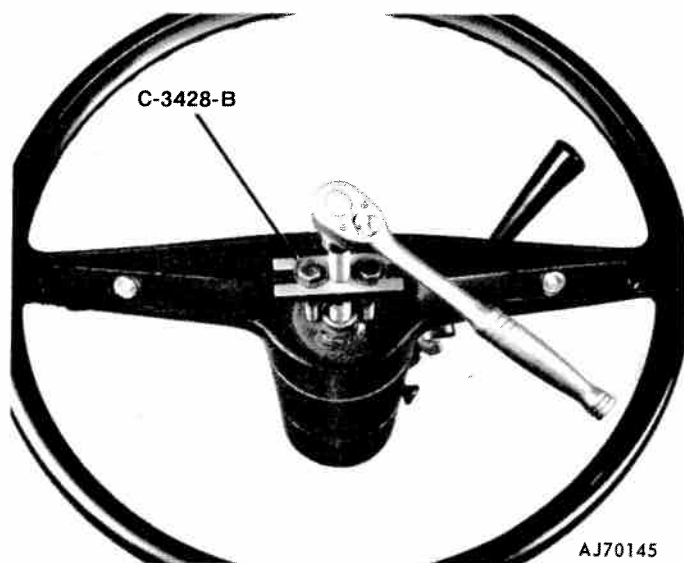

Fig. 11-2 Steering Wheel Removal
(1) Disconnect battery negative cable.
(2) Place front wheels in straight-ahead position.
(3) Remove steering wheel spoke horn cover attaching screws from underside of steering wheel spoke and remove horn cover.
(4) Disconnect horn wire from switch in steering wheel cavity by gently pulling and wiggling quick-disconnect connector.
(5) Remove steering wheel nut and connector.
(6) Scribe a mark on steering wheel and steering shaft to facilitate installation.
(7) Install Puller J-25115 (fig. 11-2).
(8) Remove steering wheel.